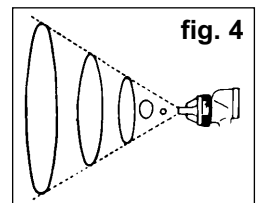

fig. 4
- 6.3.3. The direction of the fan spray, either horizontal or vertical, is obtained by turning the air nozzle to the desired position then tightening the retaining ring. The spray pattern of the gun is variable from round to flat with all patterns in between. In normal operation, the wings on the nozzle are horizontal. This provides a vertical fan-shaped pattern which gives maximum uniform and even coverage when moving the gun back and forth, parallel to the work surface, see fig. 4.